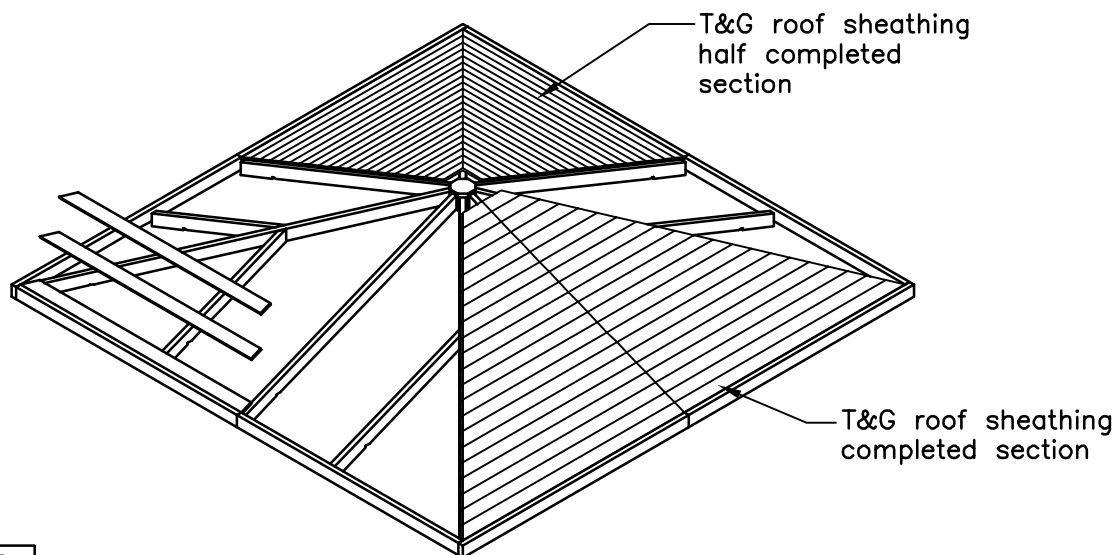

FIGURE S25
- The T&G roof sheathing is packaged in a left and right packages therefore one package will cover one half of the one side of roof section. The T&G roof sheathing is a inter locking system. See Figure S25.